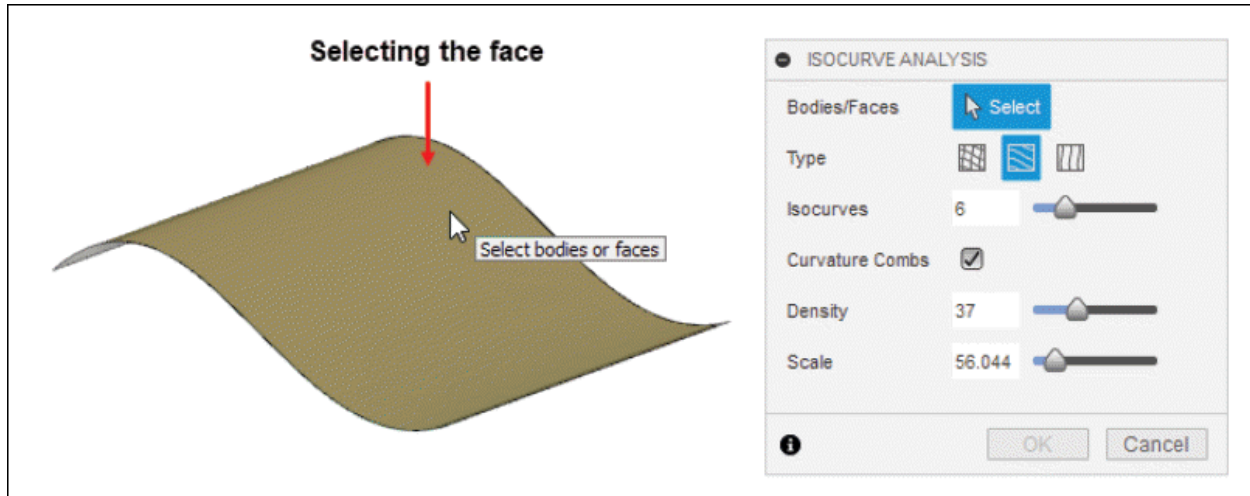

Figure-56. Selecting the face to analyze
- The **Bodies/Faces** selection button is active by default. Select the body or face which you want to analyze; refer to Figure-56.